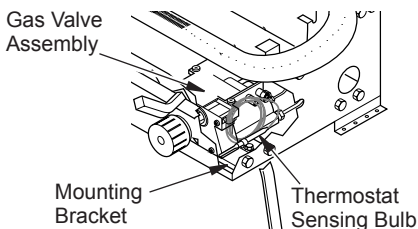

Figure 34 - Location of Gas Valve Assembly and Thermostat Sensing Bulb
1. Remove logs. Locate the gas valve assembly and thermostat sensing bulb (see Figure 34).